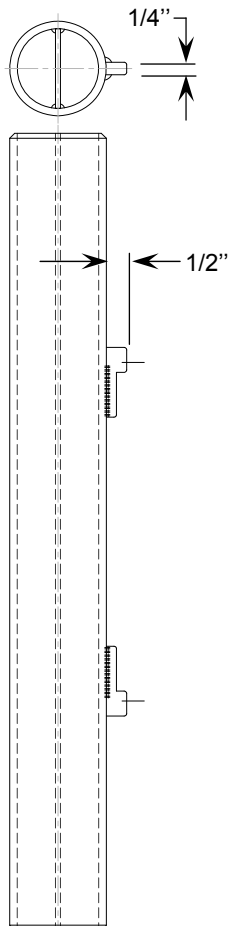

Fig. 1
**PIPE ARM:** (See Fig. 1) Constructed of 2 inch structural steel pipe having an outside diameter of 2-3/8 inch. Positioning keys are permanently welded to the pipe arm at precise positions that align with notches in the ends of each of the fitters. Arm finish is hot dip galvanized after all welding is completed. Optional finishes over the galvanizing are available to match the color of the pole. Ends of the pipe arm bottom out against the inside of the fitters a small fraction of an inch before the keys bottom out in the notches to provide a secure fit.